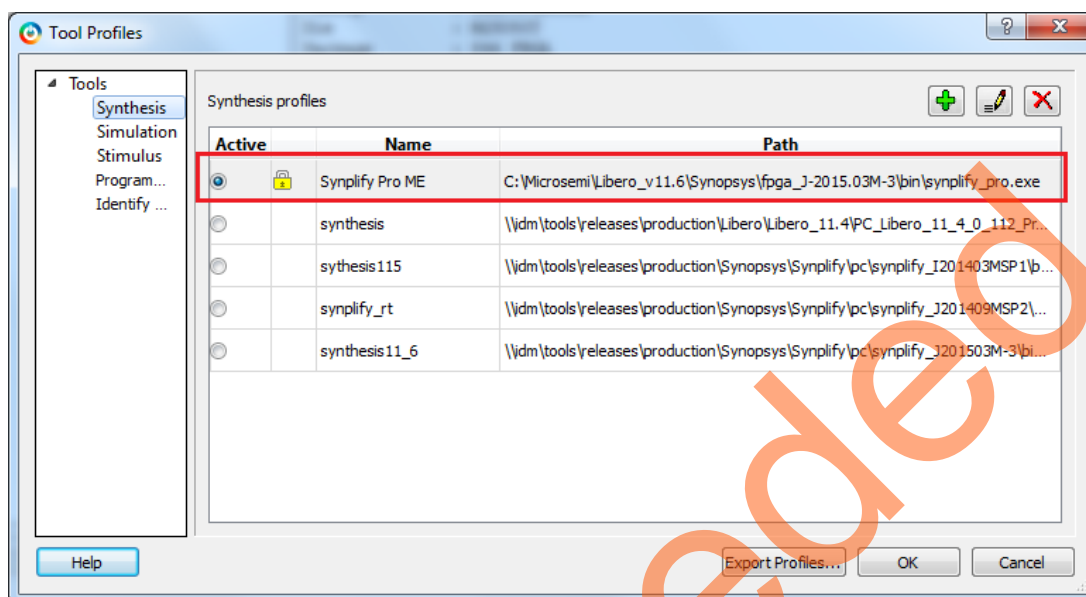

Figure 15.Tool Profiles Dialog Box
4. Set the following values, as shown in Figure 15:
8. Choose the appropriate tools settings, if they are not already selected, as shown in Figure 15. The tools shown in this dialog box depend on the installation. To change the default tool settings, refer to the Libero SoC Online Help.